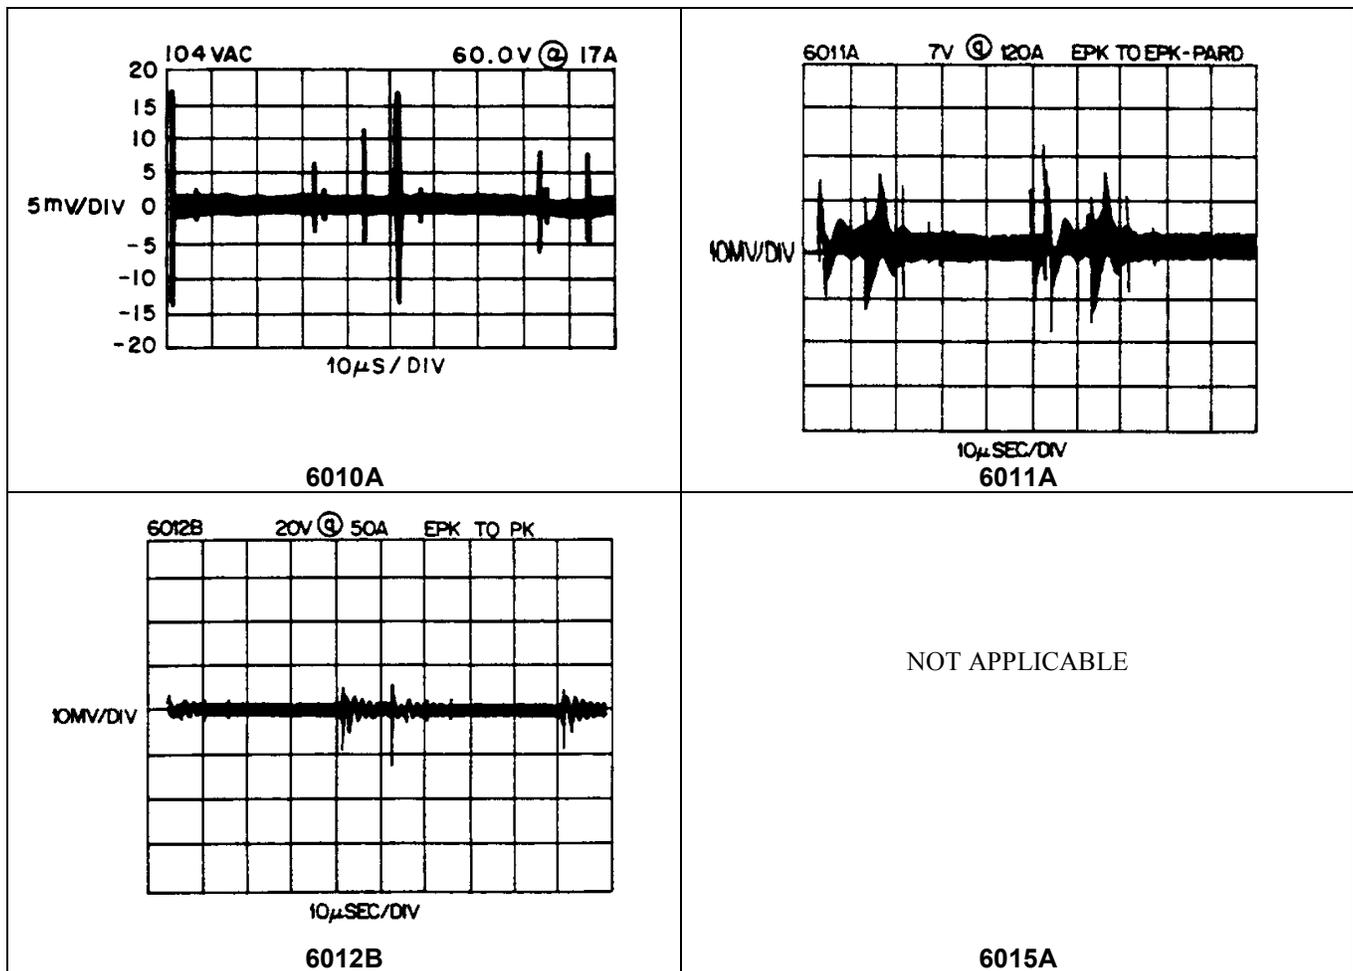

Figure 2-6. 20KHz Noise, CV Peak-to-Peak PARD
- e. Set the oscilloscope's input impedance to  $50\Omega$  and bandwidth to 20MHz. Adjust the controls to show the 20KHz and higher frequency output-noise waveform of Figure 2-6.